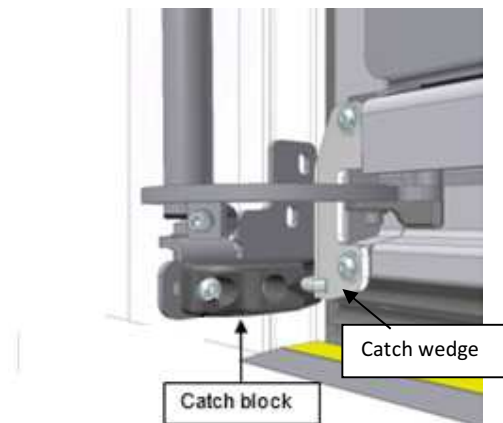
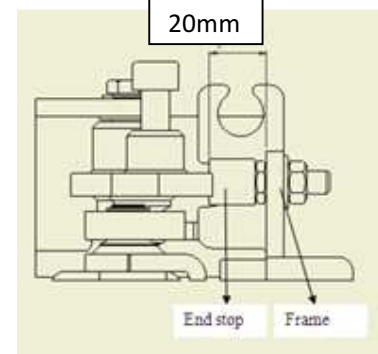

Figure 1.21: Third type catch block
Figure 1.26: Overcenter electric **with unlock cylinder**
1.	Check if the end stop is the right distance from the frame according to Figure 1.21 - figure 1.26 depending on the situation.